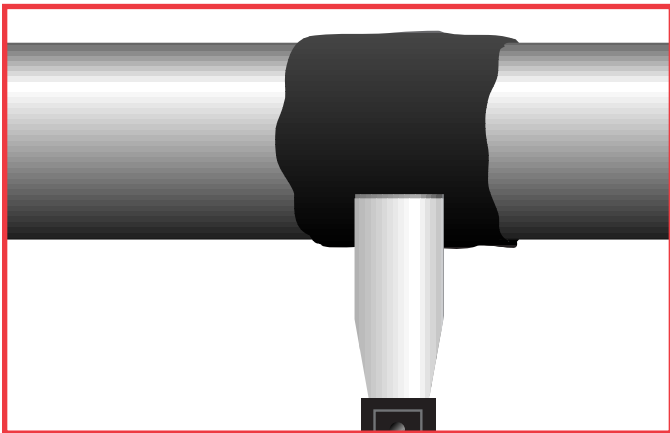

Figure 17. Fill the repair area with epoxy.
- 3. Apply** a very thin layer of the recommended repair epoxy and force into the bottom of the threads. Turn the shaft at a very low speed and continue to apply more material by using a tool, such as a putty knife, that can be bent. (See figure 17)